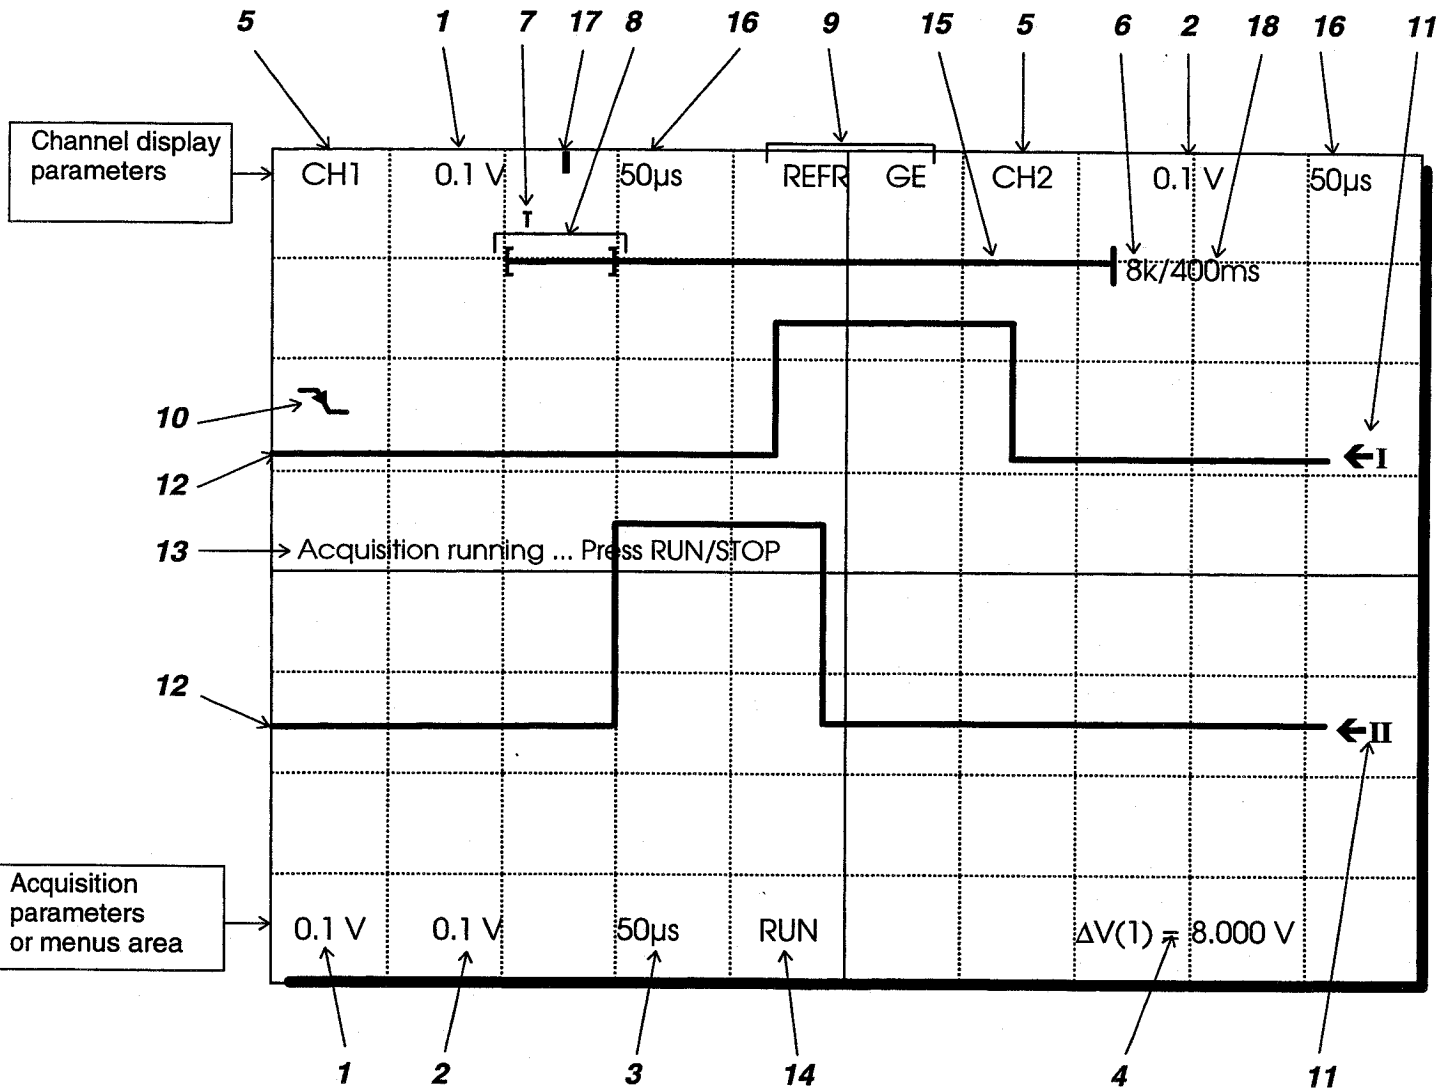

Figure 2: Screen in digital mode
The configuration on the instrument inputs is restored and the "No signal found" message is temporarily displayed in area 13 shown in figure 2.
The signal is sampled and is then displayed on the screen (figure 2). The sampling frequency depends on the timebase coefficient and the acquisition mode (see § 6.2.3. Specifications table).
The memory bargraph is displayed in area 15 (figure 2). Controls specific to digital mode are grouped around the screen and appear in blue on the front.
**The sensitivities displayed in areas 1 and 2 in figure 2, and all measurement results, take account of the selected probe coefficients.**
(32) - (37) **VAR** - Continuous adjustment of the vertical sensitivity.
When the button is not locked at the left stop, the deflection coefficient is preceded by the warning symbol ">" 0.1 V/div. (area 1 or 2 in figure 2).